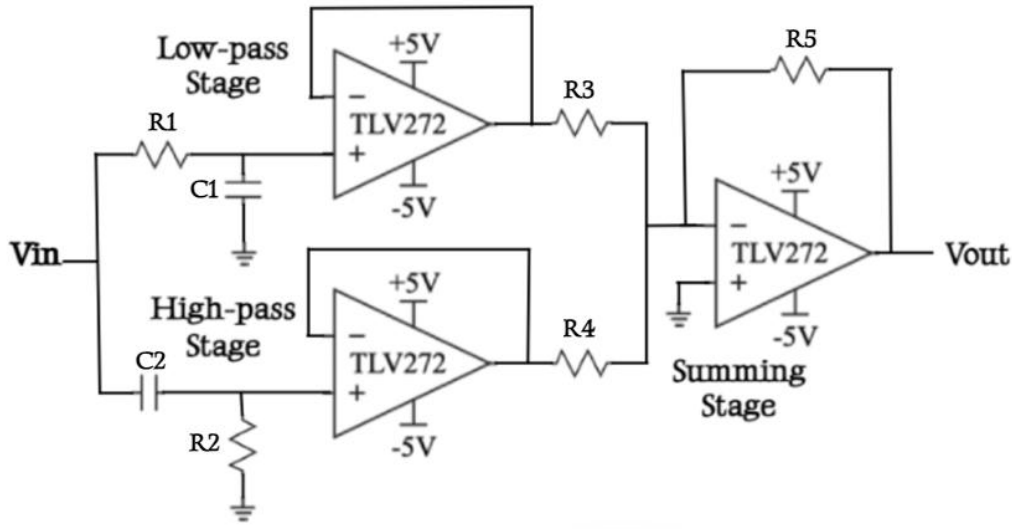

Figure 8.6. Topology for a band reject filter.
5. Use the schematic below (Figure 8.6) to build a RC band reject filter. Once again, choose resistor and capacitor values from your parts kit to attenuate 240Hz by at least -3dB. Use $8.2\ \text{k}\Omega$ resistors for R_3 , R_4 , and R_5 . Table your chosen resistor and capacitor values as well as the expected cutoff for the low-pass and the high-pass stages. Set the voltage source to an AC amplitude of 1 and run an AC analysis with the following settings: Decade, 100, 1, 100k. Add a cursor to the trace to clearly show the attenuation at 240Hz. Save an image of the circuit and a plot of the output. (Hint: For the high pass component, choose a cutoff frequency at least 80 Hz above the target frequency, and for the low pass component choose a cutoff frequency at least 80 Hz below the target frequency). **Note: Your bode plot might not be the most attenuated at 240Hz. That is okay! Your only goal is to ensure 240Hz is attenuated by at least -3dB while frequencies significantly lower or higher than**